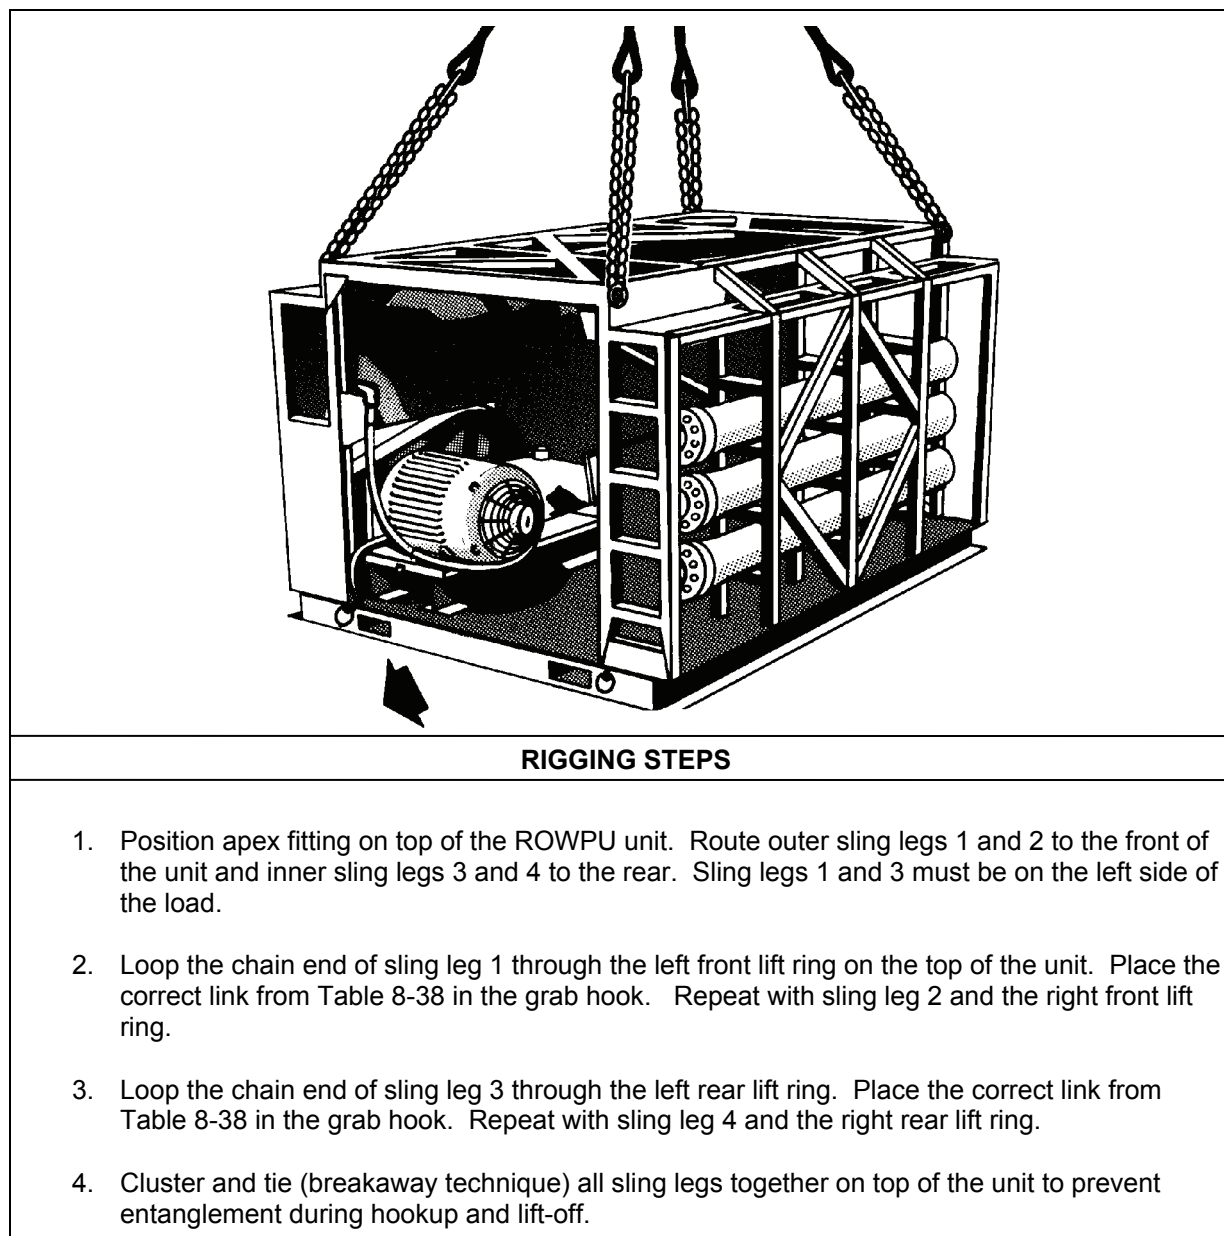

Figure 8-38. Water Purification Unit-Reverse Osmosis
- **Rigging.** Rig the load according to the steps in Figure 8-38.